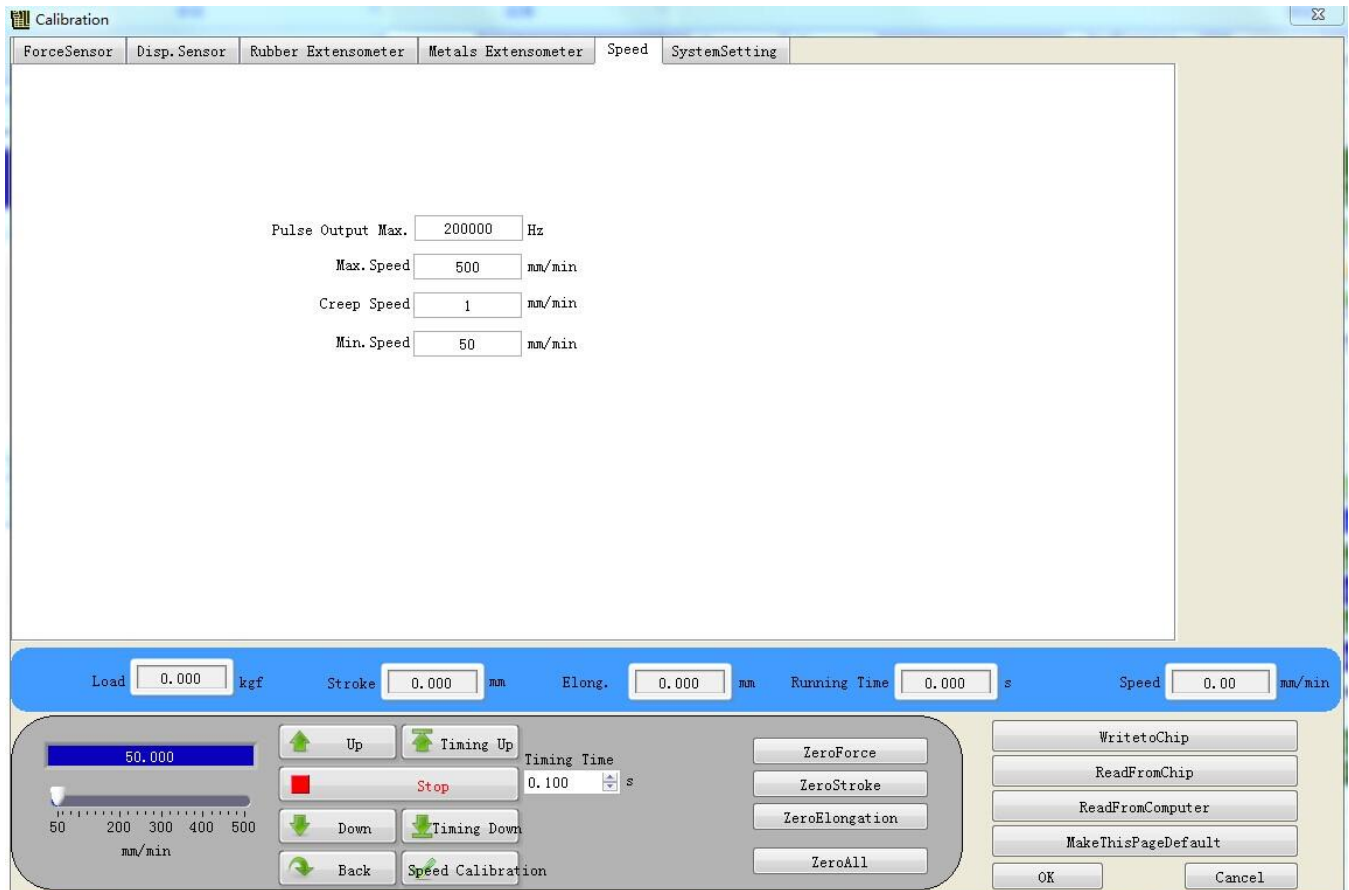

图 9-1
5. Speed Select the Speed tab, as shown in Figure 9-1: